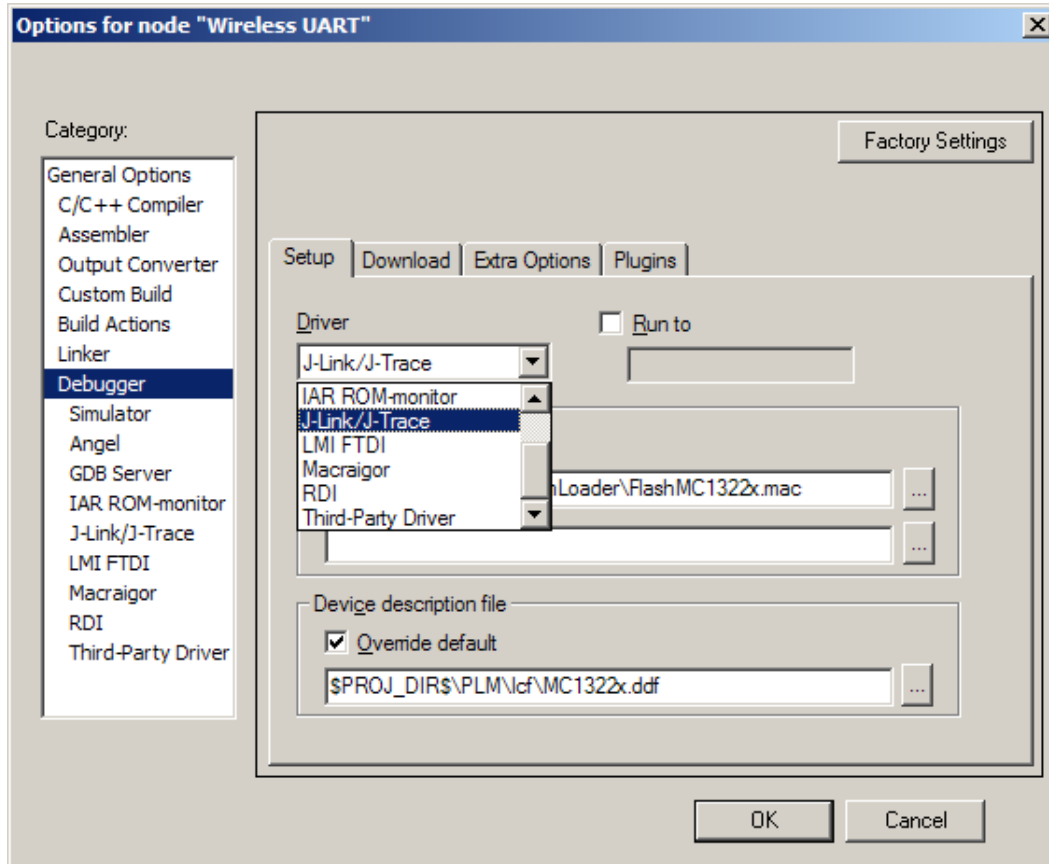

Figure 1-14. Debugger Setup
- At the debugger category on the Setup tab, select the “J-Link/J-Trace“ option as shown in Figure 1-14.